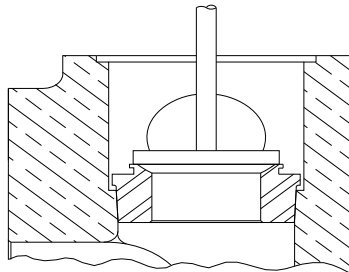

Figure 32
- e. With a bar and a driver, drive the seat in place with two or three sharp blows. **NOTE!!** Seat does not have to be completely seated. Pump start-up pressure will drive seat home. See Figures 32 - 33.
- f. Install valve, spring(s), and spring retainer. See Figures 32 - 33.